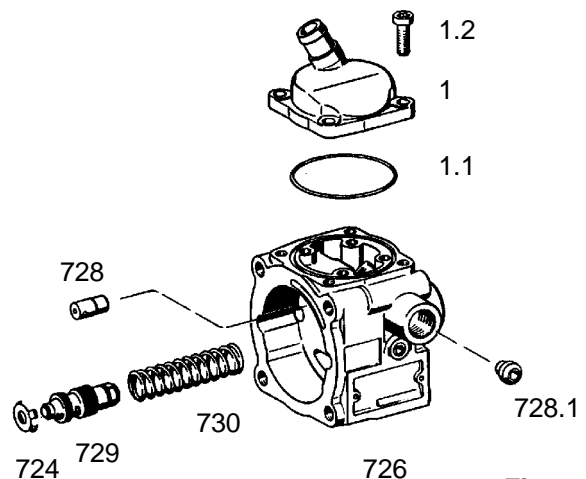

Fig. 7
Remove O-ring (1.1) from cover (726) (**Fig. 7**).
These throttle inserts (728) are recognisable in that they are pressed into the cover (726) and are located without spring cap (724) in their final position (**Fig. 7**).